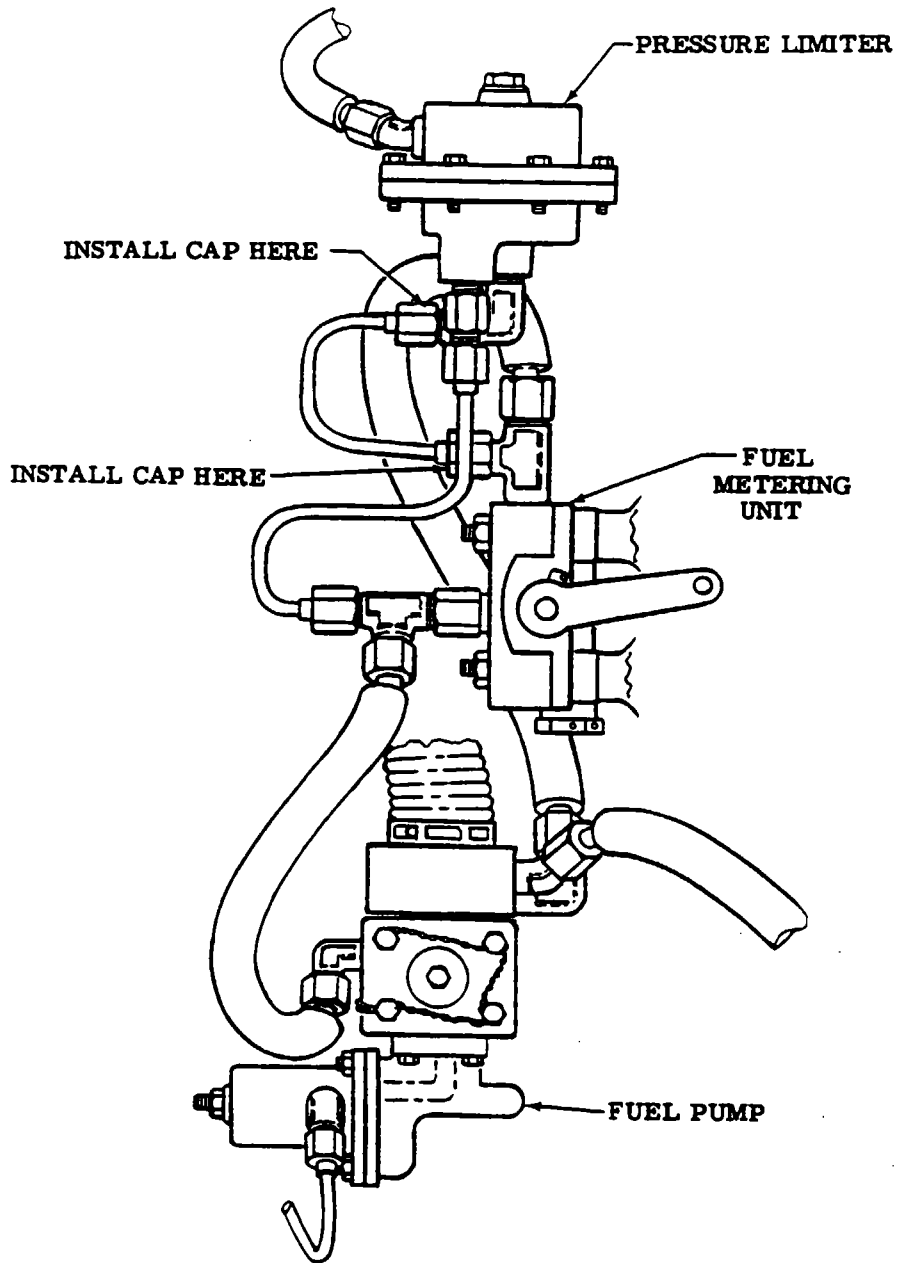

Figure 12-7. Fuel-Injection Pump Adjustment/Test
- d. Disconnect line from the return (center) port of fuel flow limiter, plug line and cap port. Refer to figure 12-7.
- f. Adjust engine idle speed to  $600 \pm 25$  rpm and check test gage for 5.5 - 6.5 PSI. Refer to figure 12-7 for idle mixture adjustment.